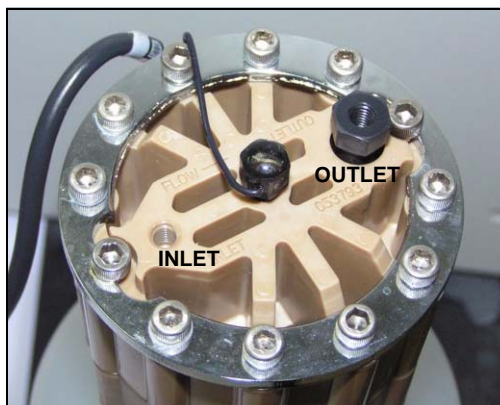

Figure B-37. EluGen Cartridge Inlet and Outlet Ports
1. Orient the EluGen cartridge with the fittings facing up and remove the plugs from the EluGen cartridge **INLET** and **OUTLET** ports (see Figure B-37).